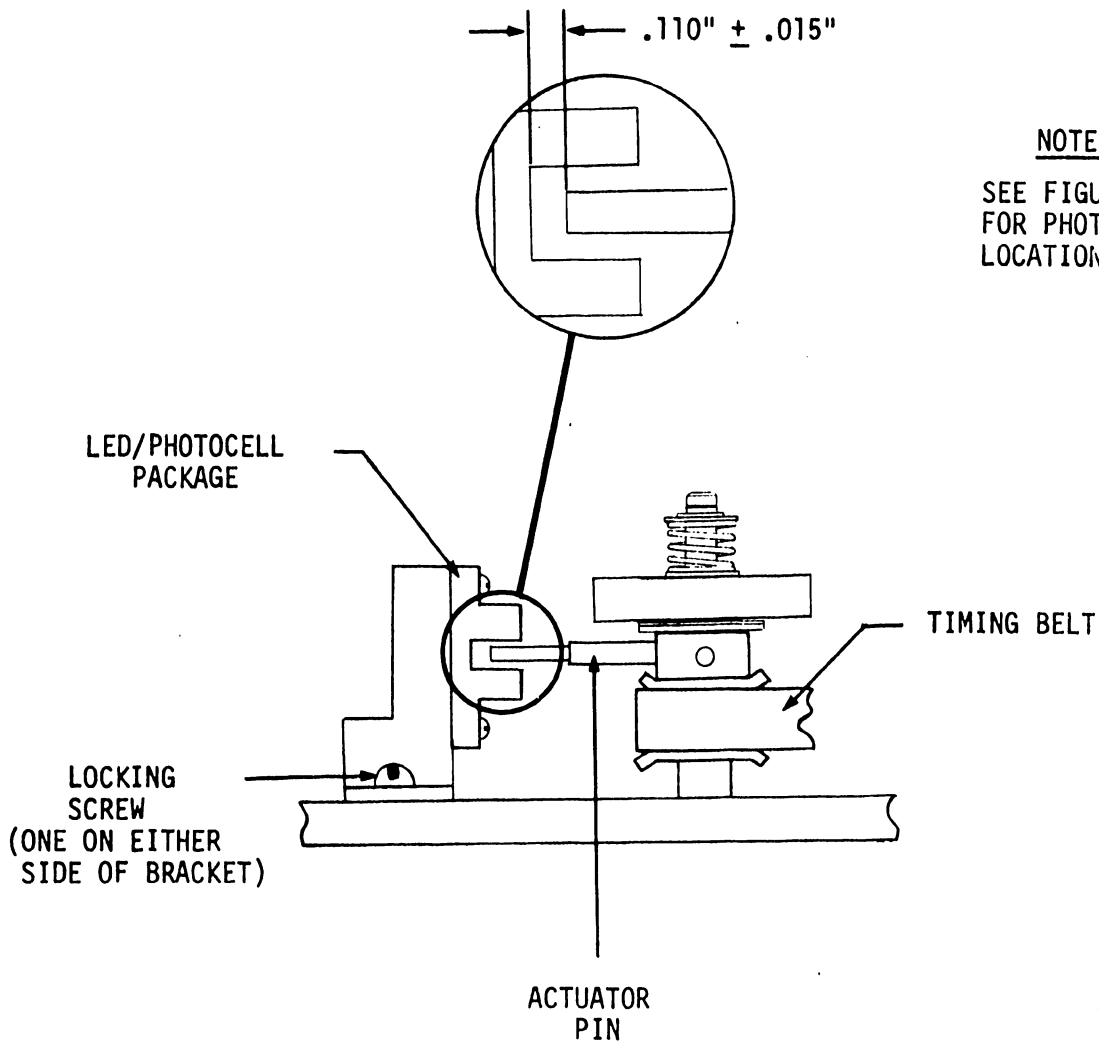

FIGURE 25
- 1) With the photo actuator pin engaged within the LED/photocell package there should be a clearance of  $.110" \pm .015"$  from the tip of the actuator pin to the inside edge of the photocell package (See Figure 25).